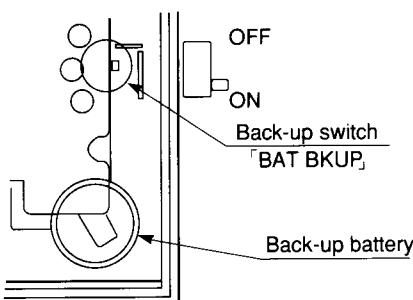

Fig. 21
- The battery back-up switch is located on the back of the P.C.B. Ass'y on the reverse side of the control panel. See Fig. 21.